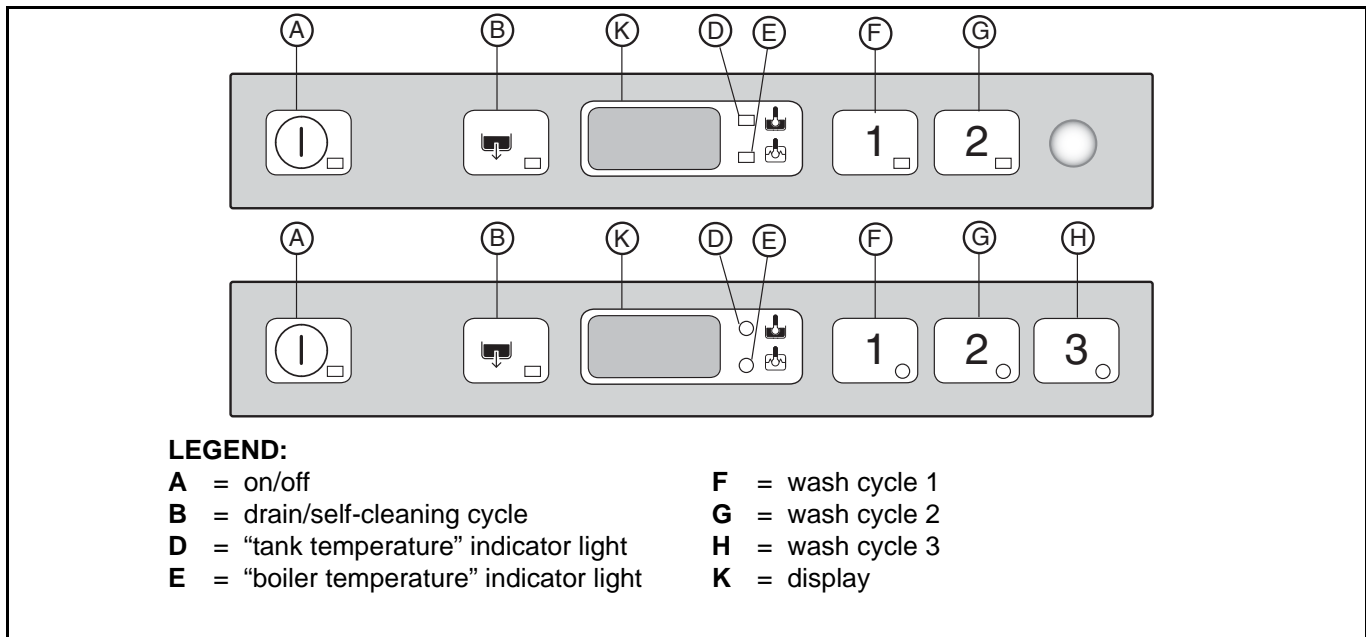

Figure 16
The indicator light of button "A" (Figure 16) comes on, indicating that the dishwasher is powered and that water is being introduced and heated.
To display the boiler temperature during heating of the tank, open the door and press the button "F" (Figure 16).
For not very dirty dishes or glasses: press button "F" (Figure 16), (see table of times).
For very dirty dishes: press button "G" (Figure 16), (see table of times).
For very dirty dishes: press button "H" (Figure 16) (see table of times).
- Select the drain cycle by pressing button "B" (Figure 16).
- Switch off the dishwasher by pressing button "A" (Figure 16).